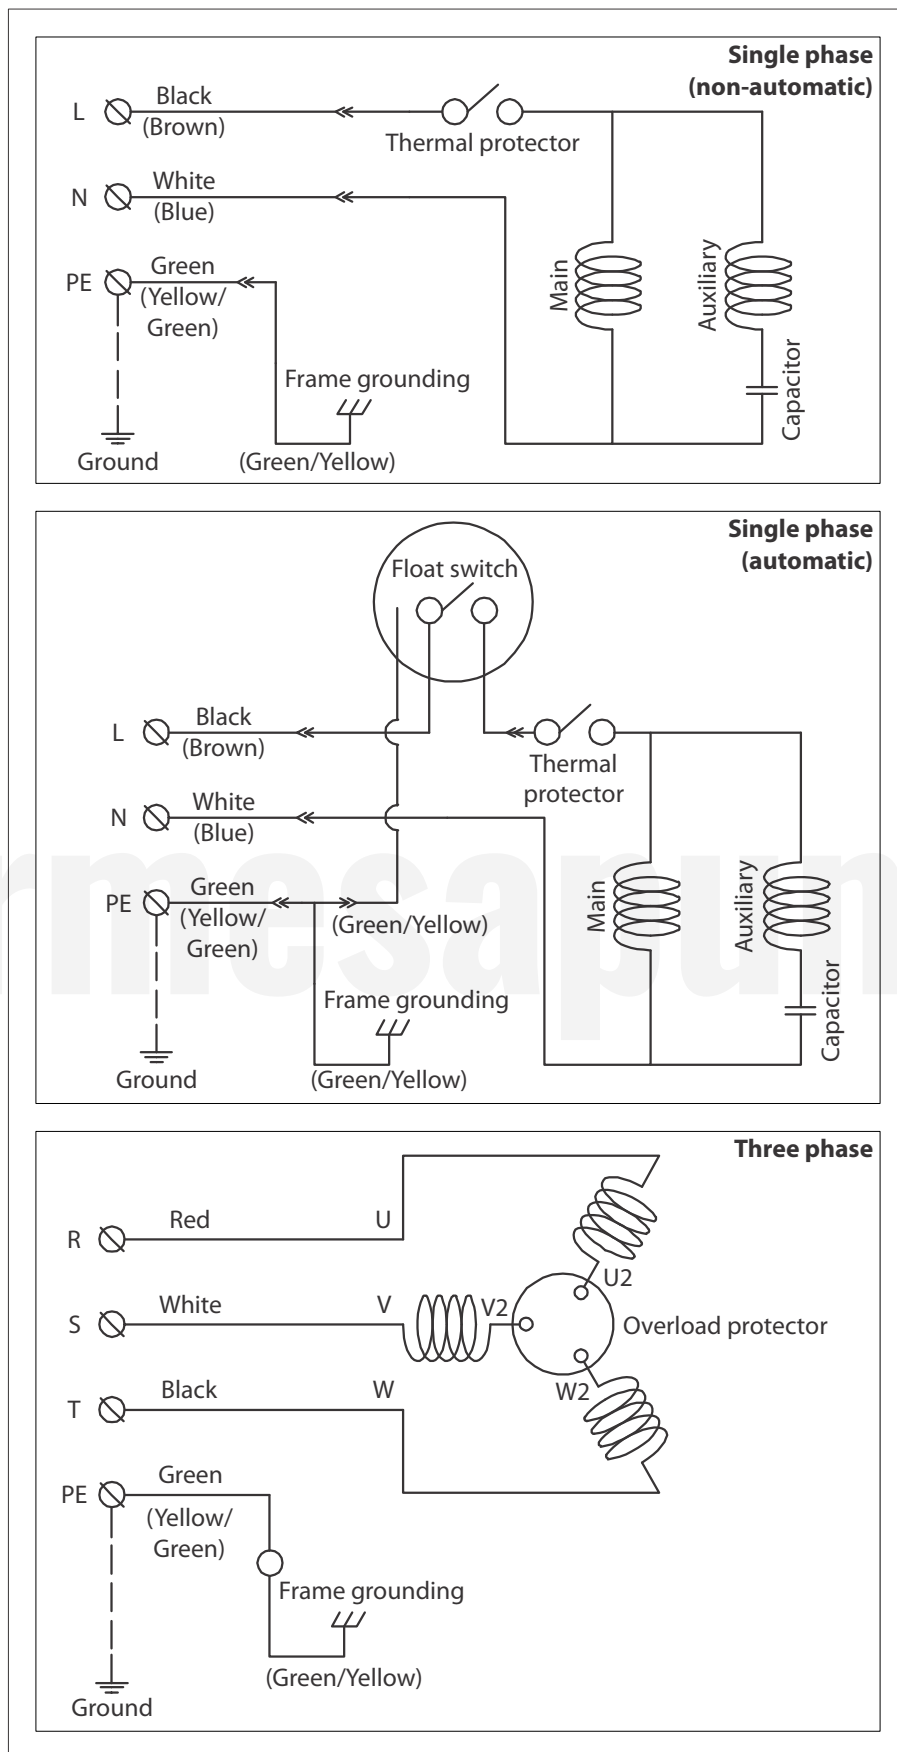

Figure 3
- Wire as indicated for the appropriate start system as shown in figure 3.